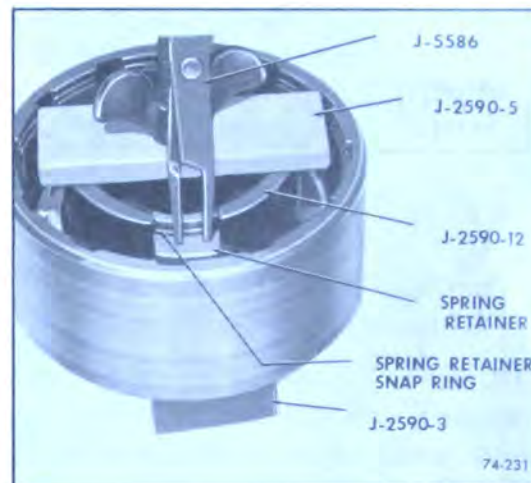

Figure 74-231
7. With spring retainer in place compress with Tools J-2590-3, J-2590-12 and J-2590-5 so spring retainer snap ring can be installed. Make sure retainer doesn't catch in snap ring groove when compressing springs. See Figure 74-231.